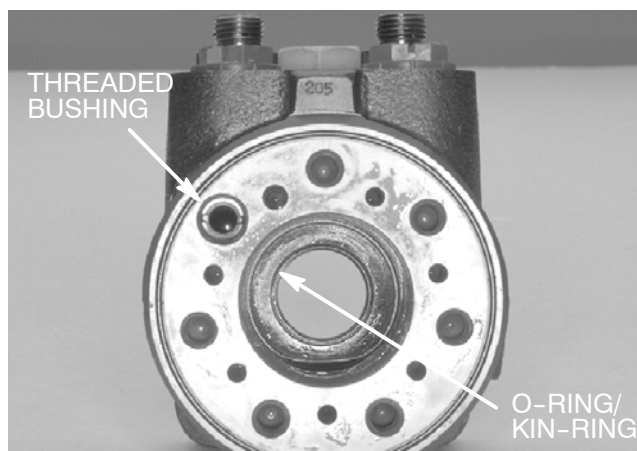

Figure 74
9. Place ball into the largest threaded hole. Secure ball into hole by threading in the bushing. Make sure the top of the bushing lies just below the surface of the housing (Fig. 74).